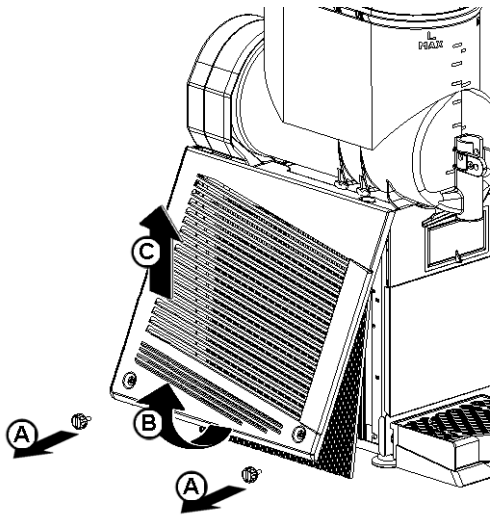

figure 18
- 2 **Monthly:** remove the dust from the condenser filter. A blocked filter will reduce performance and could cause compressor failure. Remove the only left panel (from faucet side) unscrewing the two plastic coated screws (see figure 18).